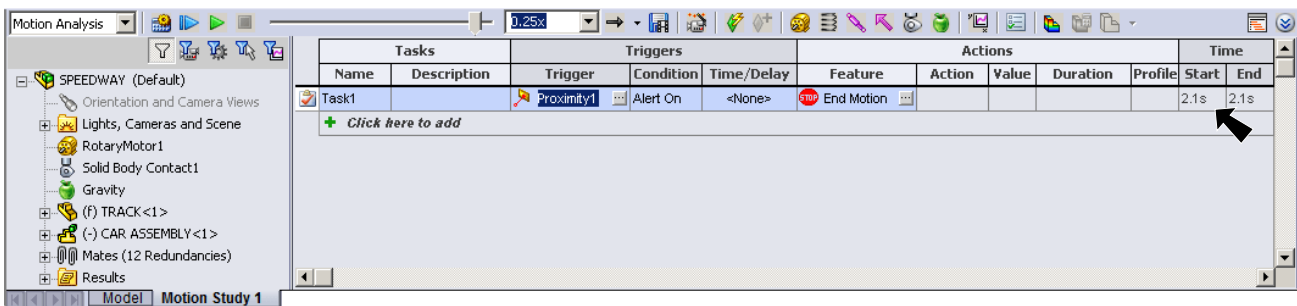

Fig. 23
Step 10. Out best time was 2.1, Fig. 23.